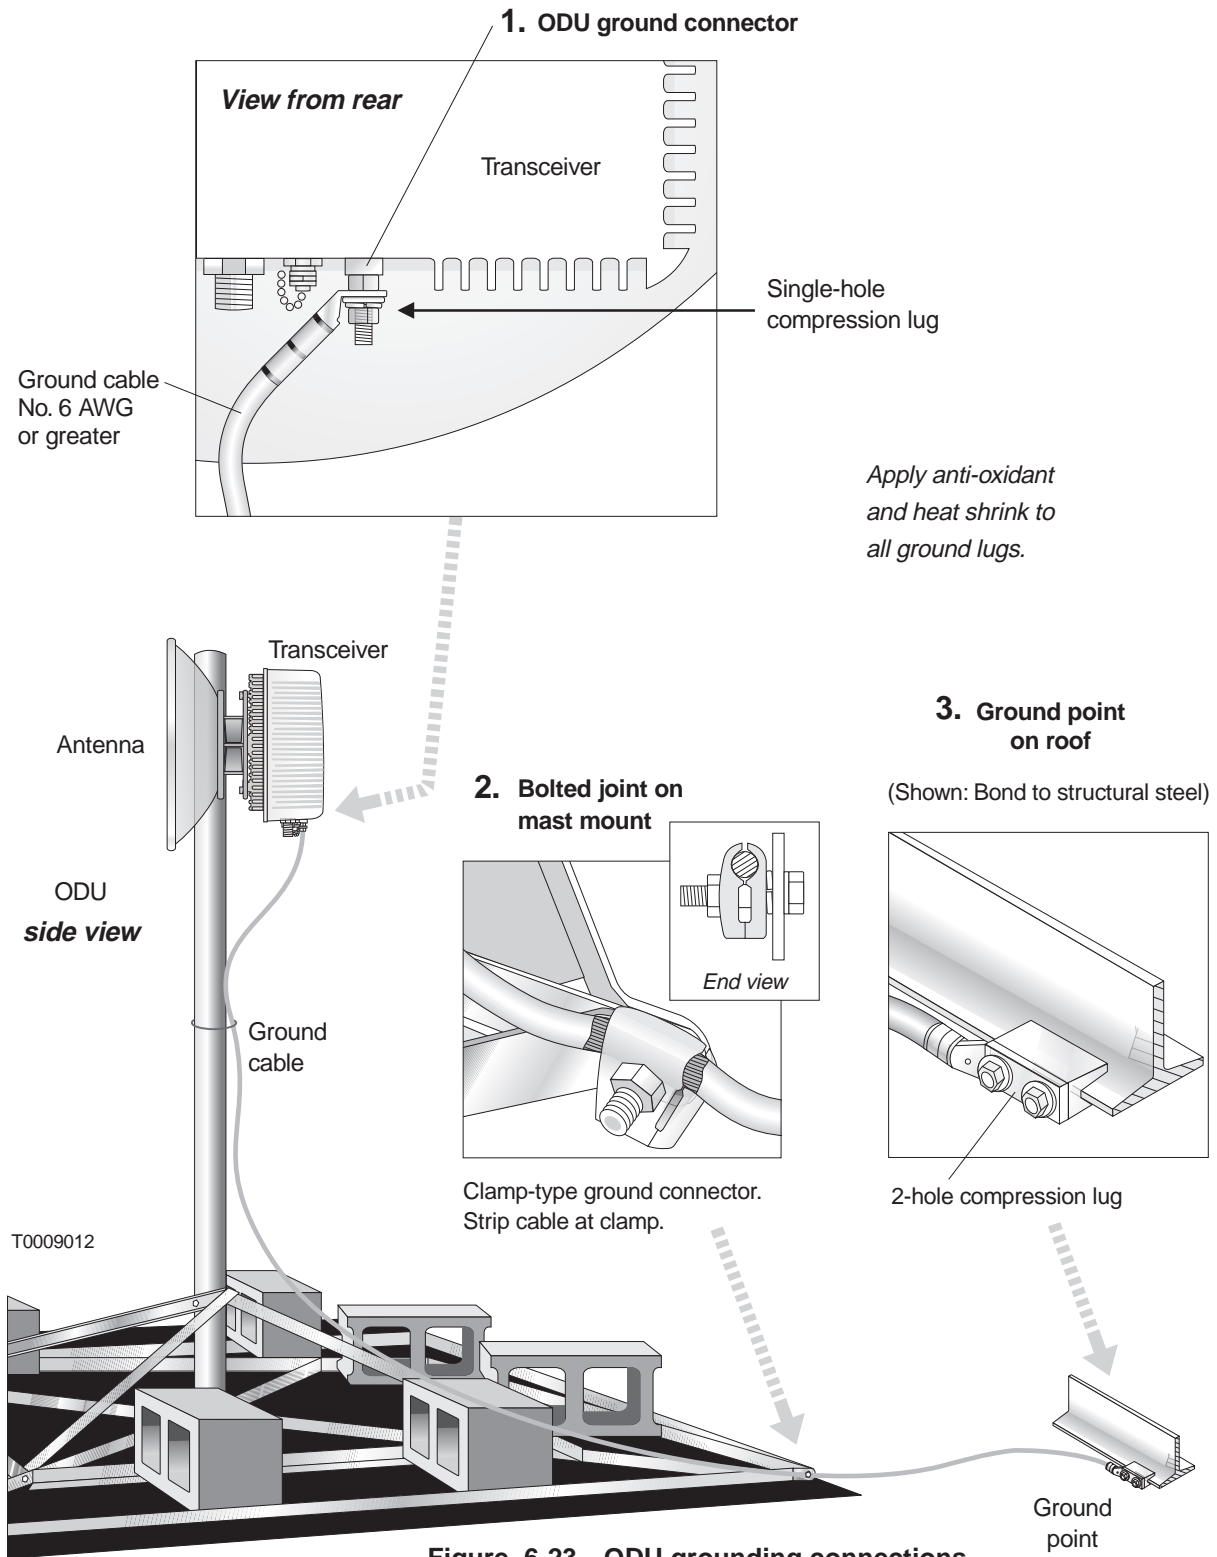

Figure 6-23 ODU grounding connections
Grounding the ODU requires several connections, as shown in figure 6-23. In making the ground connections, *follow these practices*:
1. Connect one end of the ground cable (No. 6 AWG or greater, green) to the ODU ground connector, which is shown in figure 6-23.
Important: For this connection, strip the cable but **do not cut it**. See figure 6-23. The cable continues from the bolted joint to the ground point.
4. Apply anti-oxidant (HNS 9008224-0002) to each ground lug (points 1, 2, and 3 in figure 6-23).